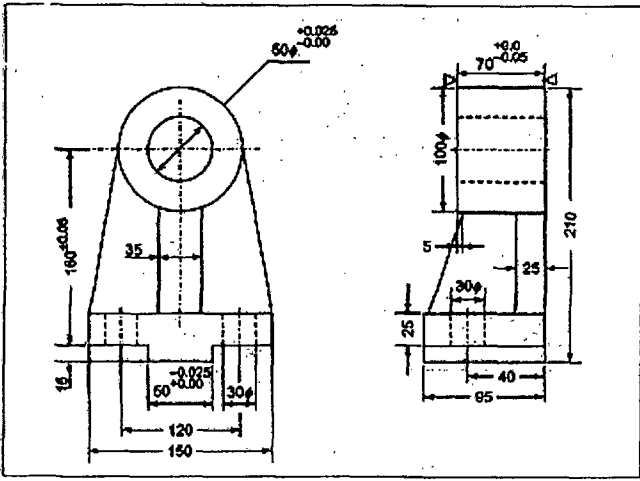

Fig 1
- 12.a) Design a drilling jig for use when drilling the two $\phi 30$ holes in the component shown in Fig. 1. Assume that the base has been machined.